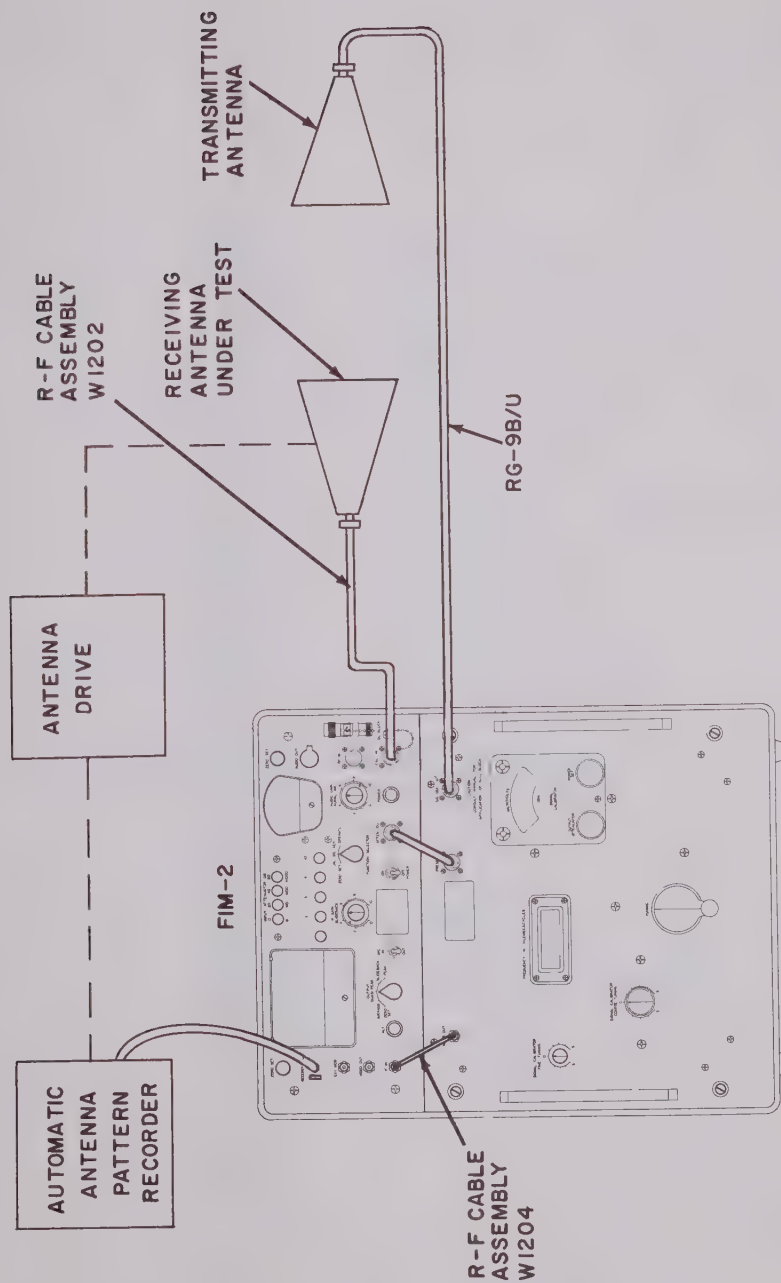

Figure 2-19. Antenna Pattern Measurements Using an Automatic Pattern Recorder, Equipment Set Up
a. Connect the antenna under test to the CAL IN jack, as shown in figure 2-19.
b. Connect the transmitting antenna to the SIG GEN OUT jack, as shown in figure 2-19.
g. Connect the automatic pattern recorder to the RECORDER OUT jack, as shown in figure 2-19.